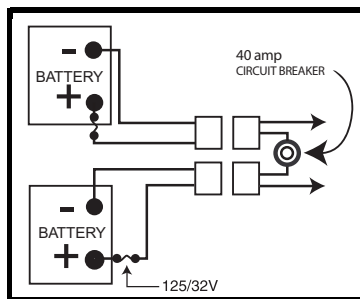

Figure 13A. Battery Cable Orientation
7. Connect the red battery cable to the positive (+) battery terminal. See figure 13A.